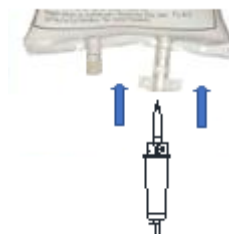

Figure 9 Sodium Chloride Injection Bag and Infusion Set Assembly
- e) Lock the Clamp on the Infusion Set Assembly and clamp the pipeline. Insert the Spike into the sodium chloride injection bag, as shown in Figure 9.